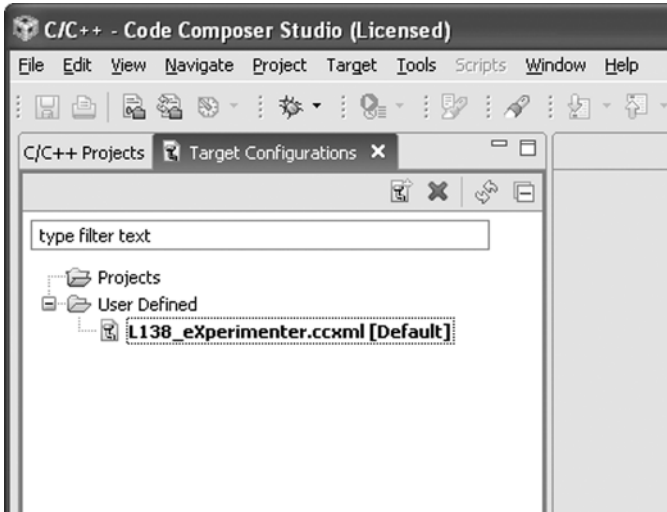

Figure 1.8 *Target Configurations* view following selection of default target configuration file `L138_eXperimenter.ccxml`.
- (9) Copy the target configuration file `L138_eXperimenter.ccxml` from `c:\eXperimenter\L138_support` to the default location used by the Code Composer Studio IDE for target configuration files, that is, `c:\Documents and Settings\YOUR_ID\user\CCSTargetCon-figurations` if you are using Window XP, or `c:\User\Your_ID\user\CCSTargetConfigurations` if you are using Windows 7.
- (10) Copy file `C6748.gel` from folder `c:\eXperimenter\L138_support` to `c:\Documents and Settings\YOUR_ID\user\CCSTargetConfigurations` if you are using Window XP, or `c:\User\Your_ID\user\CCSTargetConfigurations` if you are using Windows 7. This general extension language (GEL) script is run every time you *Connect to Target* in the debugger and carries out a number of important initialization procedures on the eXperimenter.
- (11) In the C/C++ perspective, select `View > Target Configurations`, right-click on `L138_eXperimenter.ccxml`, under *User Defined* and select *Set as Default*. The *Project View* window should then appear as shown in Figure 1.8.